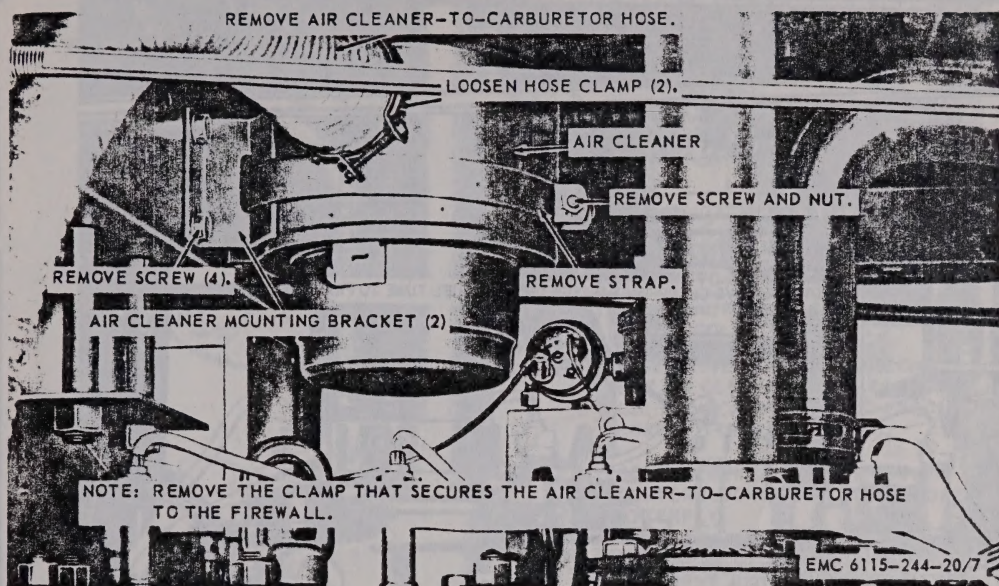

Figure 7. Air cleaner, air cleaner-to-carburetor hose, and air cleaner mounting brackets, removal and installation.
- (1) Refer to figure 7 and remove the air cleaner, air cleaner-to-carburetor hose, and air cleaner mounting brackets from the generator set.
- (2) Refer to TM 5-6115-244-10 and remove the cup and chamber from the air cleaner body.
- (1) Refer to TM 5-6115-244-10 and install the chamber and cup to the air cleaner body.
- (2) Refer to figure 7 and install the air cleaner, air cleaner-to-carburetor hose, and air cleaner mounting brackets on the generator set.